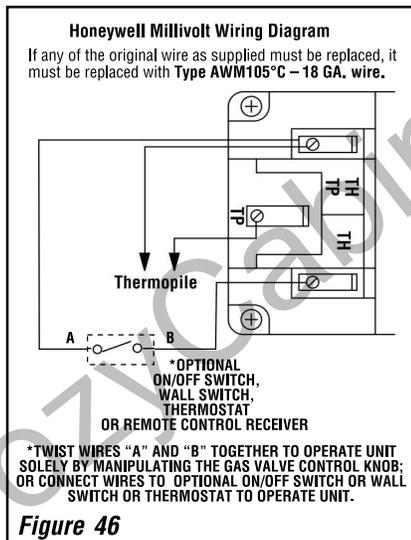

Figure 46
A. SIT and Honeywell Millivolt Wiring (See Figure 46) –
4. Alternatively, the appliance may be operated without the use of the controls indicated in step 1, solely by manipulating the gas valve control knob. In order to use this method, twist the free ends of the two conductor wire (located on top of the unit) together as shown in **Figure 46**.